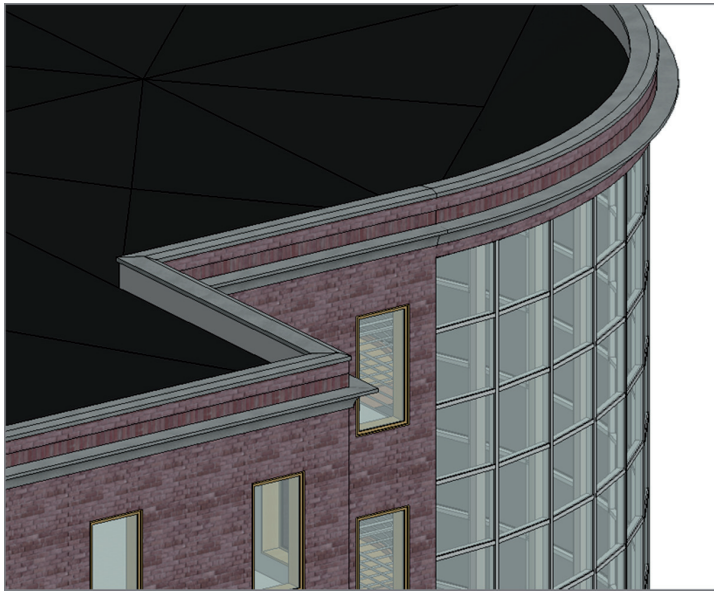

FIGURE BC2.12: The new precast concrete wall sweep
16. Zoom in on the walls. There should be a sweep, as shown in Figure BC2.12.